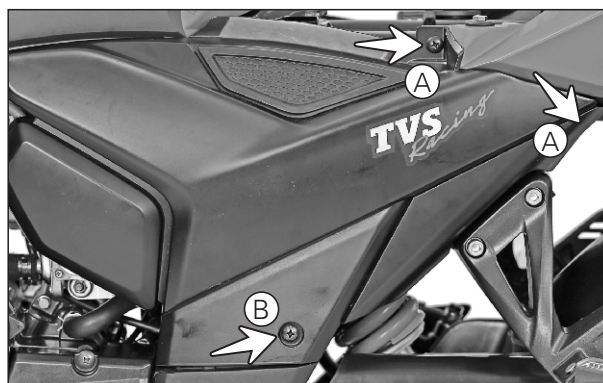

Fig. 2.5
- Remove the CRR pan head screw (A) (M6x16 - 2 nos.) and CRR pan head screw (B) (M6x20 - 1 no.) from the cover frame L. (Fig. 2.5)